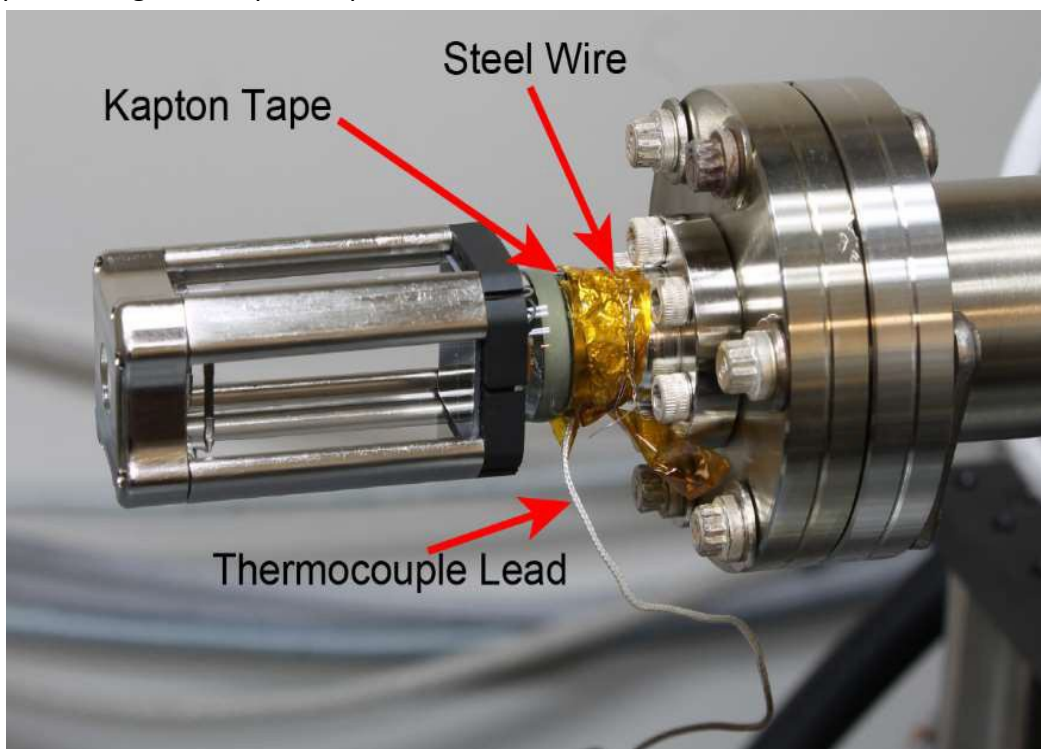

Figure 5: Affix a thermocouple to the metal neck of the source cell using Kapton tape and steel wire.
1. Ensure that one dispenser (two connections) is connected to a power supply using the provided high-temperature wire and terminal pins. The power supply should be programmed in constant current mode, with a voltage limit set to 5 V. To monitor the temperature of the bakeout, affix a thermocouple to the metal neck connected to the ConFlat flange (see Figure 5). Secure the thermocouple in place using both Kapton tape and a thin metal wire.